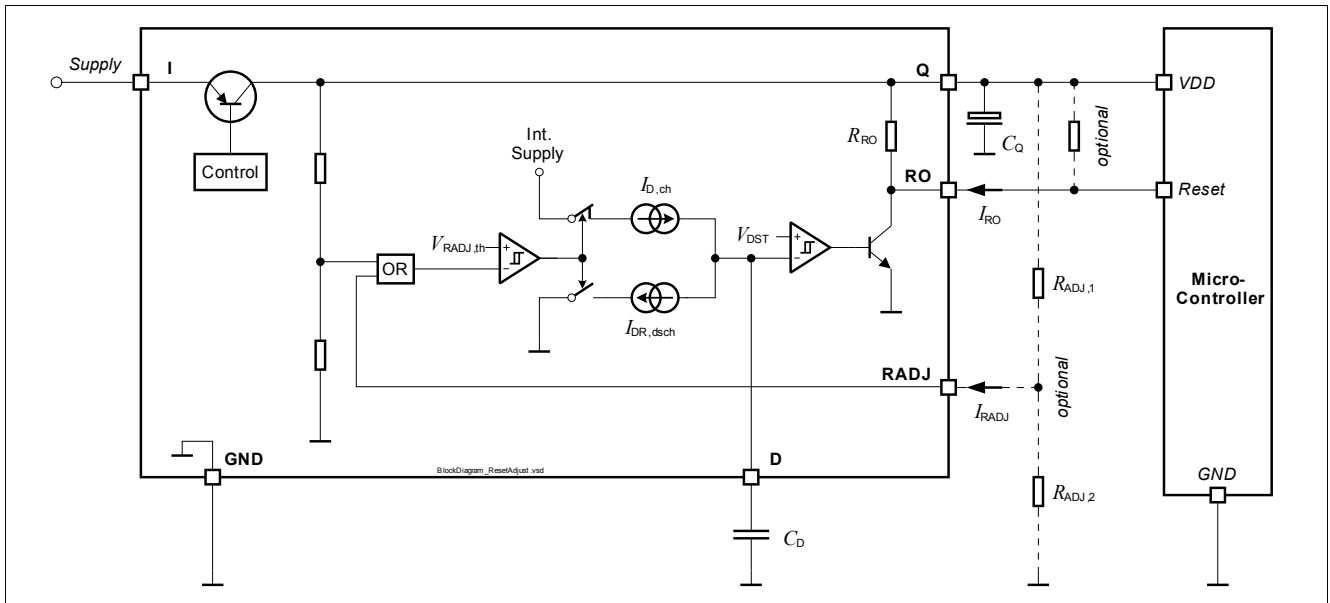

Figure 7 Block Diagram Reset Circuit
- $R_{ADJ,1}$, $R_{ADJ,2}$: Resistors of the external voltage divider, see Figure 7.
all voltages with respect to ground, direction of currents as shown in **Figure 7** (unless otherwise specified).